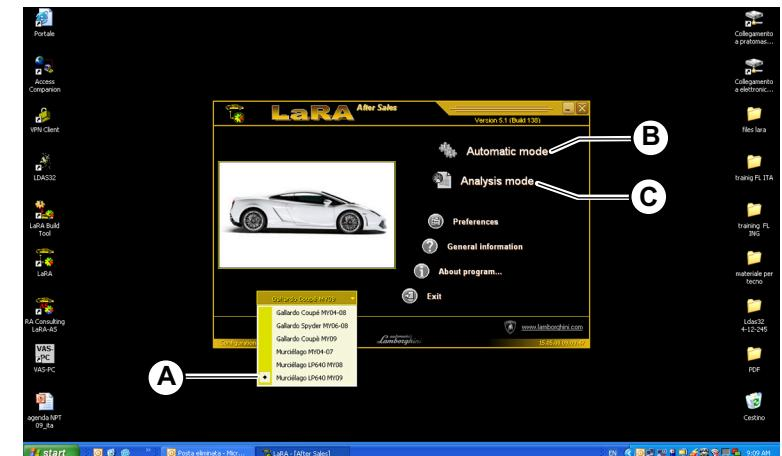

Fig.3
The selected car may be changed by clicking on the arrow next to "Murciélagos LP640 MY09" (A-Fig.3):
- **Automatic Mode (B-Fig.3):** allows a series of tasks to be carried out automatically such as set up for rewriting the LIE and GFA software.
- **Analysis mode (C-Fig.3):** allows accurate control of every electronic device on board the car (see list).